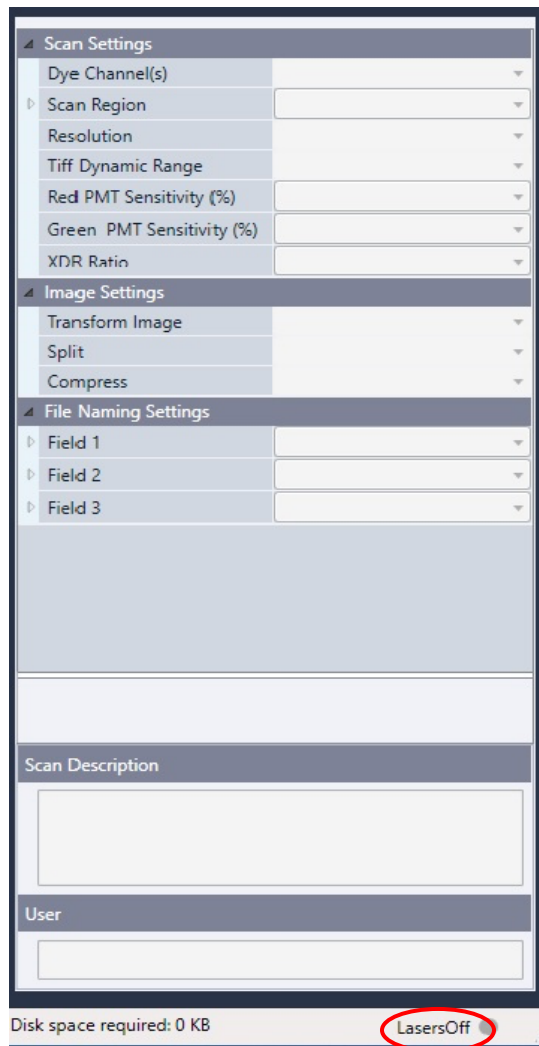

Figure 16: Lasers Off Status
14. If the scanner status showed 'LaserOff', user need to warm up the laser first before proceeding with scanning (Figure 16).